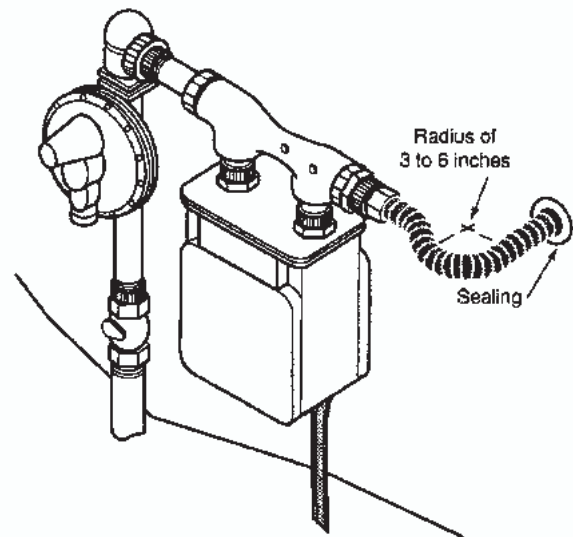

Figure 4-9
2. Meters which are independently supported with a bracket can be directly connected outdoors with *TracPipe*. If practical, direct connections shall include a 3 to 6 inch additional length of tubing to accommodate differential settling and meter movement. No mechanical protection of the tubing is required for outdoor connections. **PRIOR TO INSTALLING *TracPipe* DIRECTLY TO A METER, ENSURE THAT THE LOCAL UTILITY ALLOWS THIS PRACTICE** as some utilities have regulations specifying meter attachments. Any exposed sections of stainless steel piping must be wrapped with a silicone self-bonding tape. This is especially important with masonry construction. (Figure 4-9) A PVC Sleeve is recommended for *TracPipe* penetration of both masonry and wood frame construction.